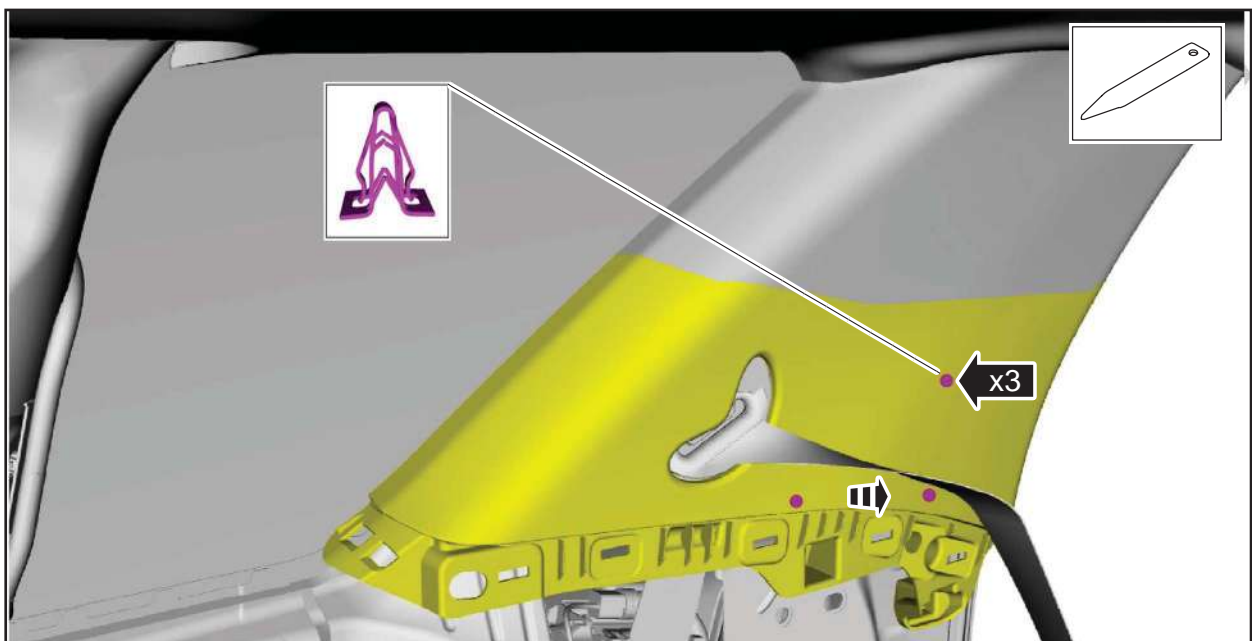

FIGURE 26
26. Release the LH C-pillar trim panel lower clips. See Figure 26.